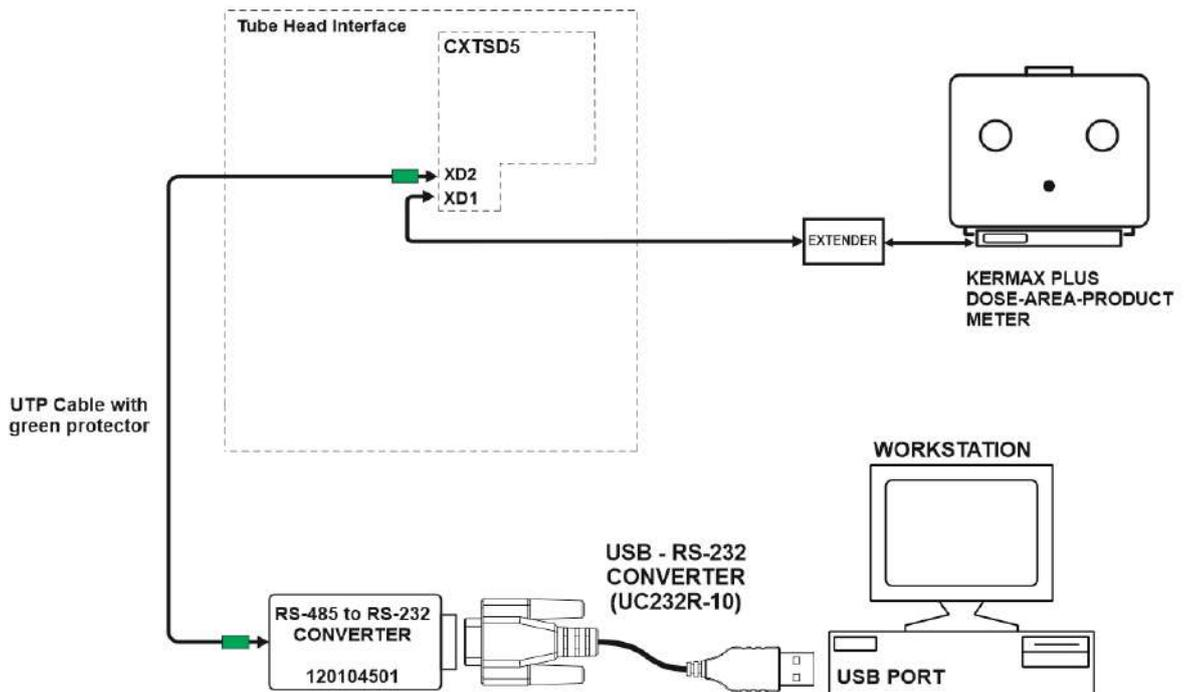

Figure 33 – DAP meter connection
- a. The FTP DAP cable with the green strain relief boot to the serial communication converter supplied with the DAP meter. Refer to Figure 33.